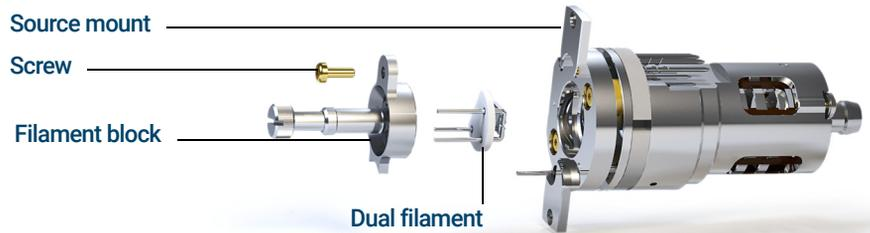

Figure 42. Replacing the dual filament
- 4 Remove the screw securing the filament block to the source mount. (See **Figure 42.**)
- 2 Insert the 3 pins on the dual filament through the rear of the filament block. (See **Figure 42** on page 136.)